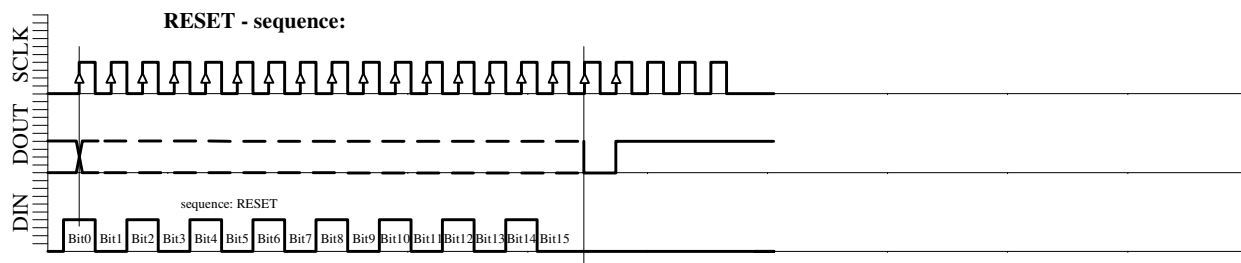

Fig. 6e: RESET sequence (21-Bit).
- RESET sequence (Figure 6e)
The RESET sequence is special as its unique pattern is recognised by the module in any state. By consequence it can be used to restart if synchronisation between the microcontroller and the MS5535C has been lost. This sequence is 21-Bit long. The DOUT signal might change during that sequence (see Fig. 6e). It is recommended to send the RESET sequence before first CONVERSION sequence to avoid hanging up the protocol permanently in case of electrical interference.